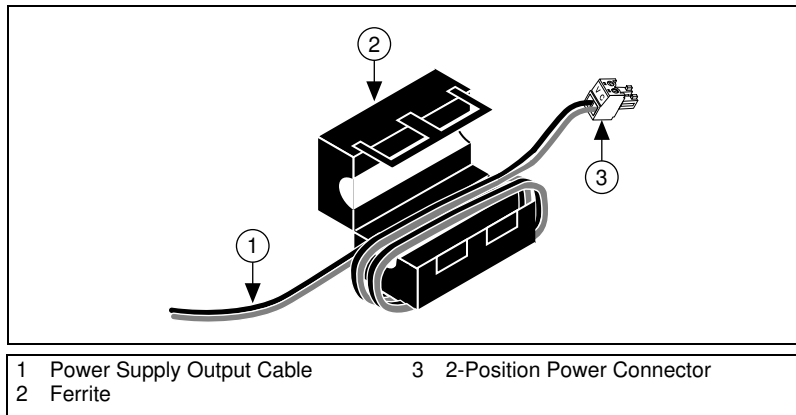

Figure 4. Installing a Ferrite Connector on the Power Supply Cable
- (Optional) To suppress electromagnetic interference, install a ferrite on the power supply cable as close to the connection to the NI 8254R as possible. Wrap the power supply cable around the ferrite two times, as shown in Figures 4 and 5.